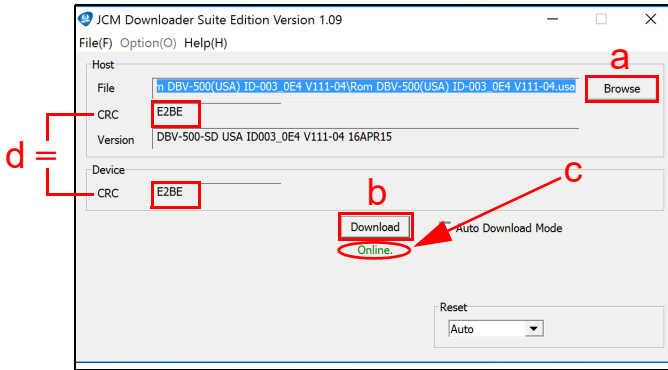

Figure 6 Downloader Suite Display
The JCM Downloader Suite Edition display appears (Figure 6).
2. To select the file to download, click “Browse” (Figure 6 a).
4. Click “Download” to start the file transfer (Figure 6 b).
NOTE: A **Blue** Barograph will display the download progression. When downloading is complete, the DBV-500 S Unit will automatically reset, and the **Online** message will be displayed (Figure 6 c).
5. Verify that the Host CRC and Device CRC values are identical (Figure 6 d).